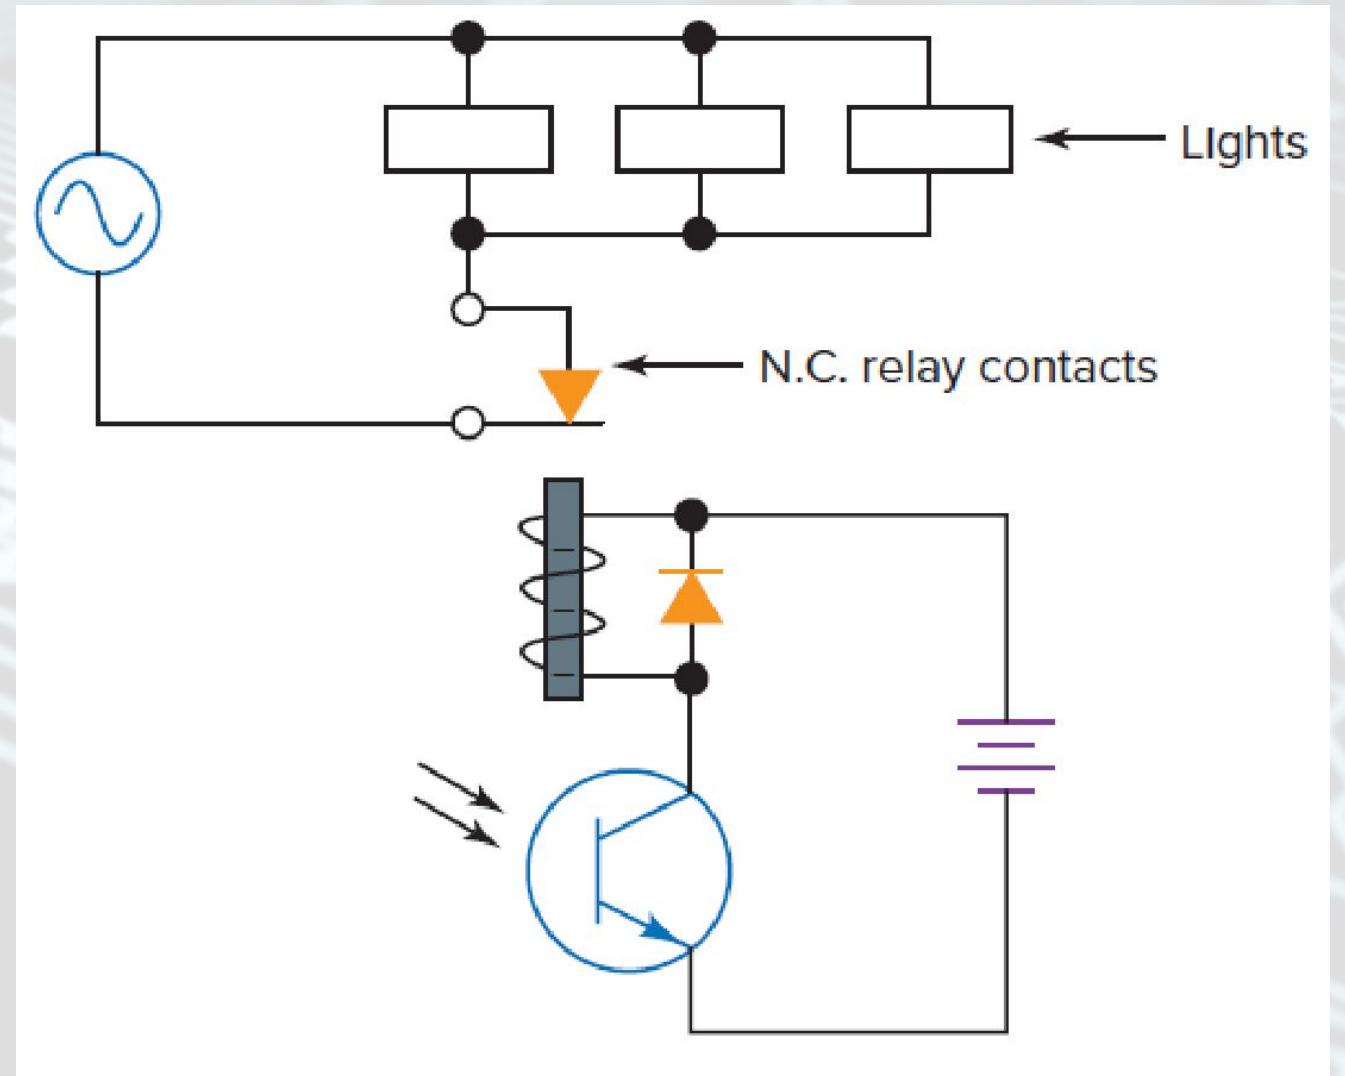

Fig. 5-26 Phototransistor-controlled lighting.
One possible application for a phototransistor is shown in Fig. 5-26. This circuit provides automatic lighting. With daylight conditions, the transistor conducts and holds the normally closed (NC) contacts of the relay open. This keeps the lights turned off. When night falls, the phototransistor dark current is too small to hold the relay in, and the contacts close and turn on the lights.